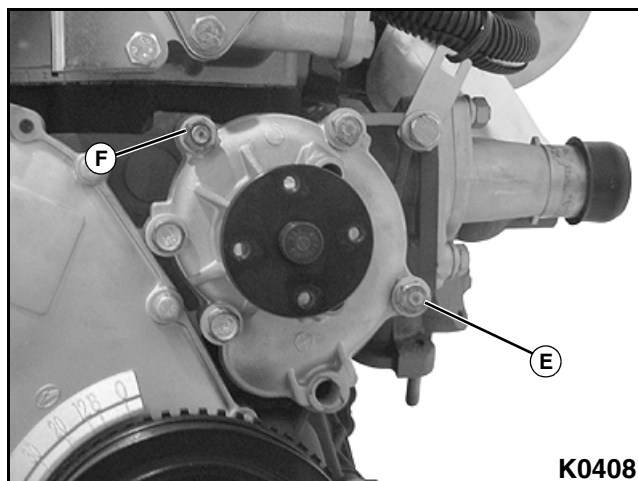

Figure 3-3
6. Remove four water pump mounting bolts (E). See Figure 3-3.
7. Remove water pump mounting nut, flat washer, and lock washer (F) from water pump.